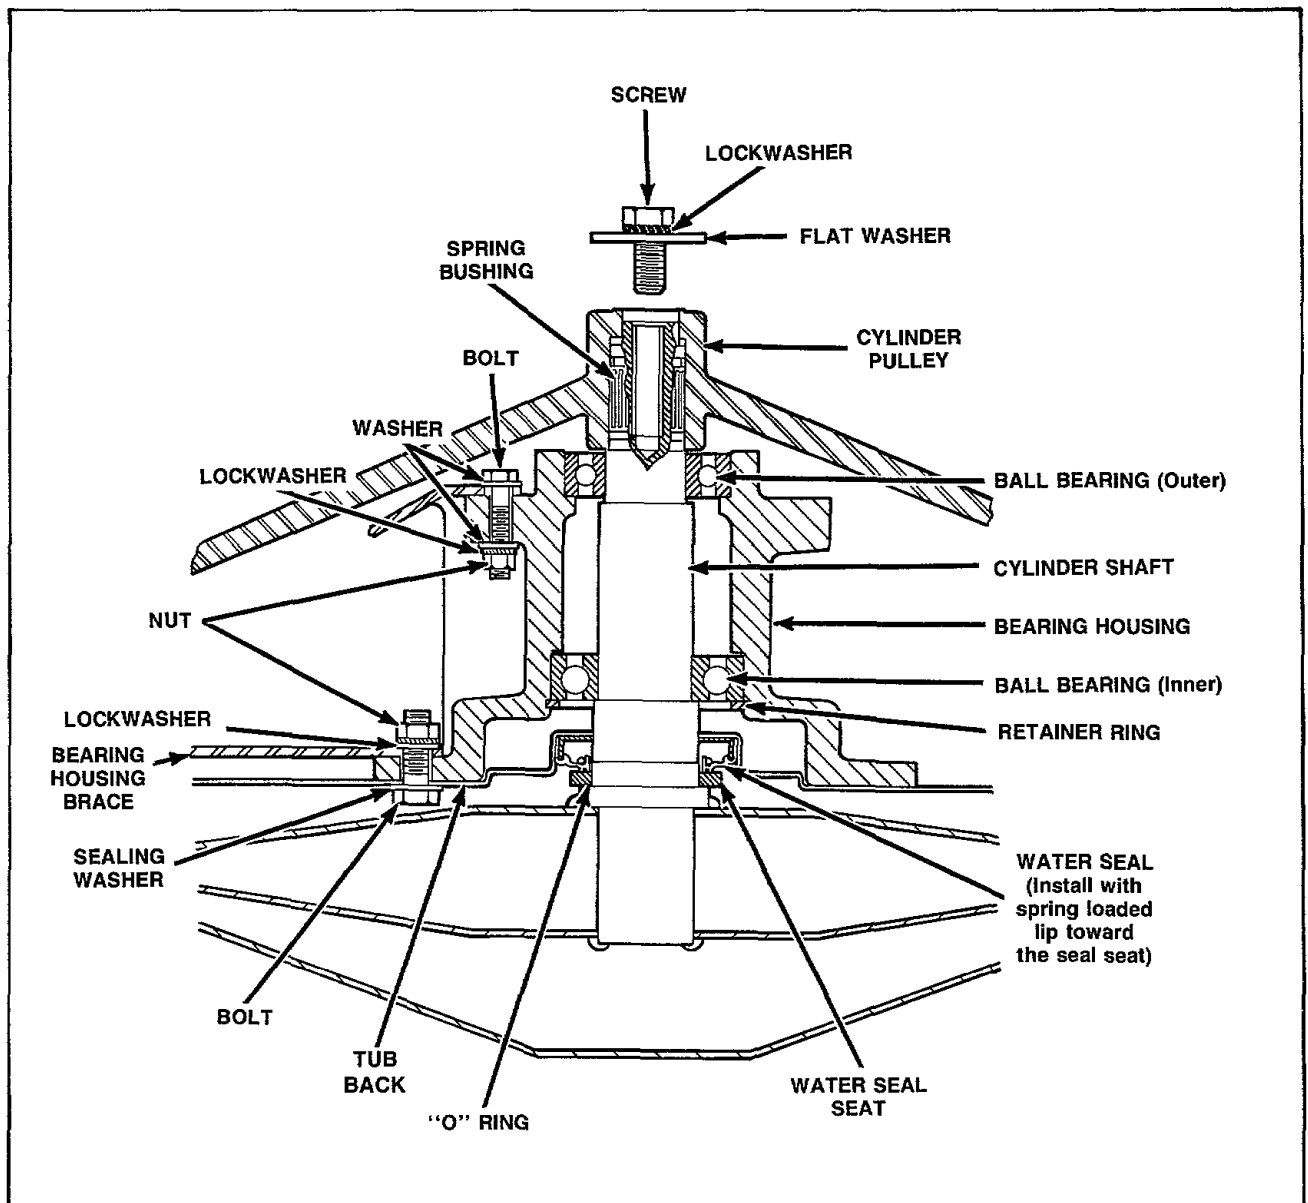

Figure 27
- o. Remove the screw, lockwasher and flat washer holding the pulley to the cylinder shaft, *Figure 27*.
- b. Remove the attaching hardware holding the bearing housing braces and tub back to the bearing housing, *Figure 27*.
- b. Carefully pry water seal out of the tub back, *Figure 27*.
NOTE: New water seal should be installed with the spring loaded lip facing toward the seal seat, *Figure 27*.
- Remove the attaching hardware holding the bearing housing braces and tub back to the bearing housing, *Figure 27*.
and a piece of hardwood dowel. The inner bearing is held in place with a retainer ring which must be removed first before attempting to remove the inner bearing, *Figure 27*.
- b. Reinstall the tub back and braces on the bearing housing assembly using six screws, sealing washers, lockwashers and nuts, *Figure 27*.
- c. Tighten the six screws holding the tub back and braces to the bearing housing. Recommended torque of 240 to 280 inch pounds (27.11 to 31.63 N.M). DO NOT tighten the other brace screws at this time, *Figure 27*.
- d. Carefully place the bearing housing and tub back onto the cylinder shaft, *Figure 27*.
IMPORTANT: We recommend a new spring bushing be used when reinstalling the pulley on the cylinder shaft, *Figure 27*.
- g. Reinstall the screw, lockwasher and flat washer on shaft, *Figure 27*.